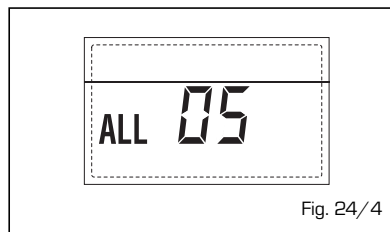

Fig. 24/4
- BLOCCO FIAMMA "ALL 06" (fig. 24/5)